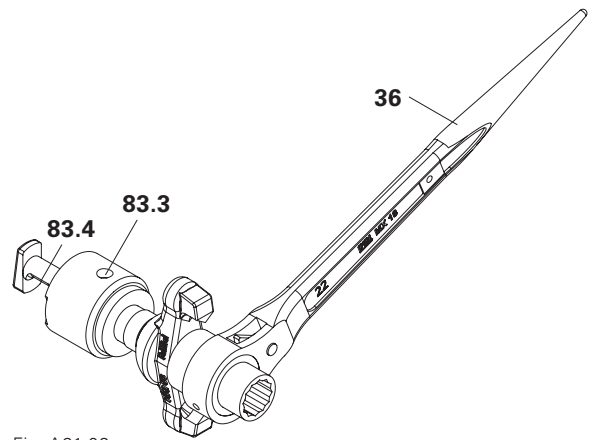

Fig. A21.02
- The Ratchet MX18 (36) can also be used for the removal process. (Fig. A21.02)
- The notch (83.4) in the Extraction Tool MX Sealing (83) is used for the recessed seal of the I-Corner MXI-2 (85).
- The opening (83.3) can be used to hold the Extraction Tool MX Sealing (83) during the unscrewing process.